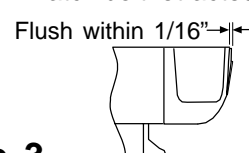

Figure 3
2. Depress pushbar and make sure latch bolts retracts and extends fully (see Figure 3).
4. Check latch bolt(s) for full retraction (must clear strike (see Figure 3)).
5. Release solenoid and check latch bolt extension (see Figure 3).